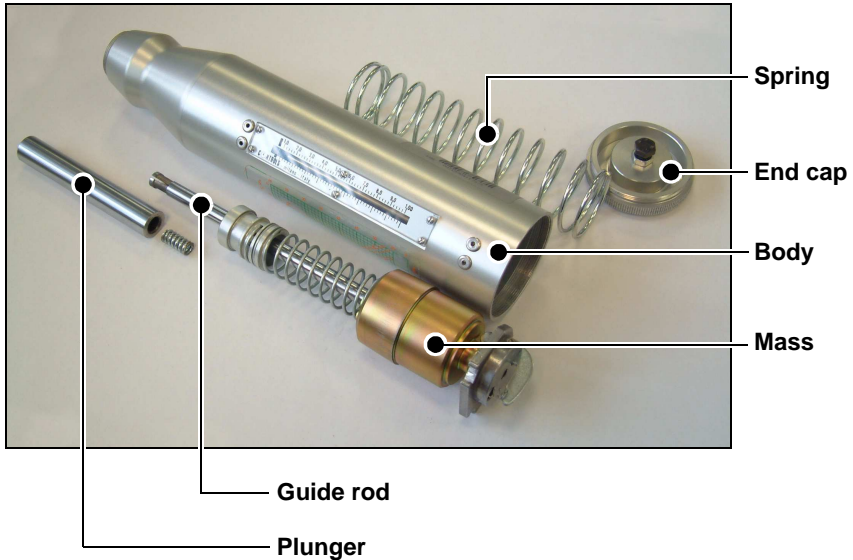

Figure 6. Removing internal components
- Referring to Figure 6, unscrew the end cap and remove the spring and all other internal moving components with the exception of the scale and sliding pointer.